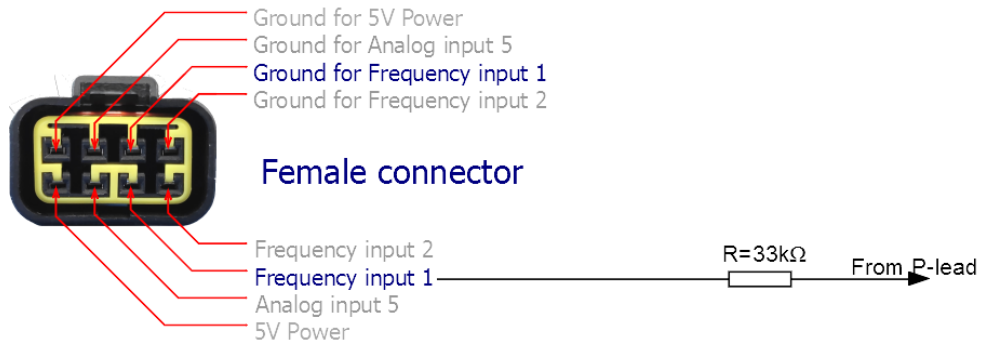

Figure 9: Direct P-lead sensing (view from unit side)
- Direct P-lead sensing from magnetos - Figure 9: Direct P-lead sensing